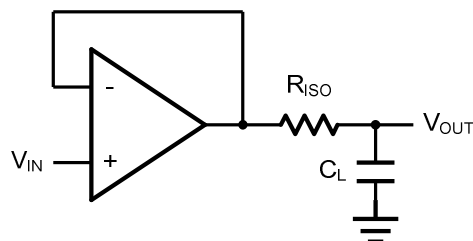
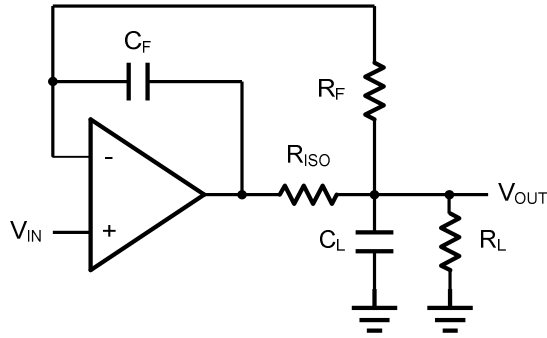

Figure 2. Indirectly Driving a Capacitive Load Using Isolation Resistor
Figure 3. Indirectly Driving a Capacitive Load with DC Accuracy
The AD855x family is optimized for bandwidth and speed, not for driving capacitive loads. Output capacitance will create a pole in the amplifier's feedback path, leading to excessive peaking and potential oscillation. If dealing with load capacitance is a requirement of the application, the two strategies to consider are (1) using a small resistor in series with the amplifier's output and the load capacitance and (2) reducing the bandwidth of the amplifier's feedback loop by increasing the overall noise gain. Figure 2. shows a unity gain follower using the series resistor strategy. The resistor isolates the output from the capacitance and, more importantly, creates a zero in the feedback path that compensates for the pole created by the output capacitance.
The circuit in Figure 3 is an improvement to the one in Figure 2.  $R_{\text{F}}$  provides the DC accuracy by feed-forward the  $V_{\text{IN}}$  to  $R_{\text{L}}$ .  $C_{\text{F}}$